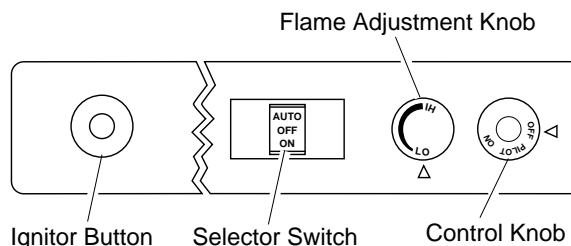

Figure 32 - Control Knob and Ignitor Button Location (Shown as Supplied, No Control Options)
5. Wait five (5) minutes to clear out any gas. Then smell for gas, including near the floor. If you smell gas, **STOP!** Follow "B" in the safety information. If you don't smell gas, go to the next step.
6. Press in and turn control knob counterclockwise to the PILOT position. Press in control knob for five (5) seconds (see Figure 32).